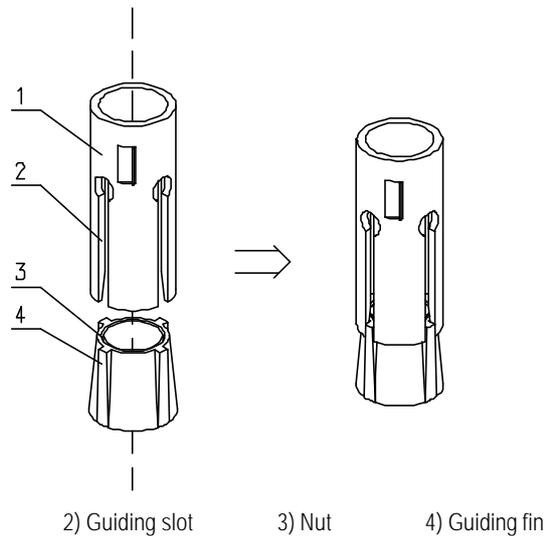

Figure 2-12 Installation of the bolt sleeve and nut
- 3) Remove the bolt sleeve and nut and put the sleeve and nut vertically into the hole (before this, the guiding fins should be installed on the slots of the sleeve). Hammer the bolt sleeve until it completely goes into the ground. Figure 2-12 shows the installation of the bolt sleeve and nut.